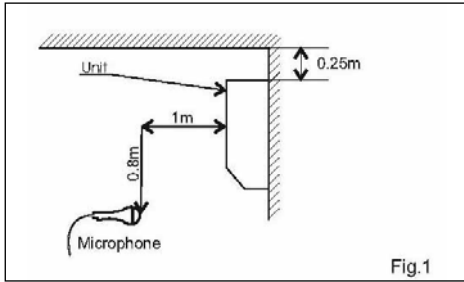

Figure 1. Wall Mounted
6.2 Sound Pressure Level Spectrum (Measured as Figure 1)